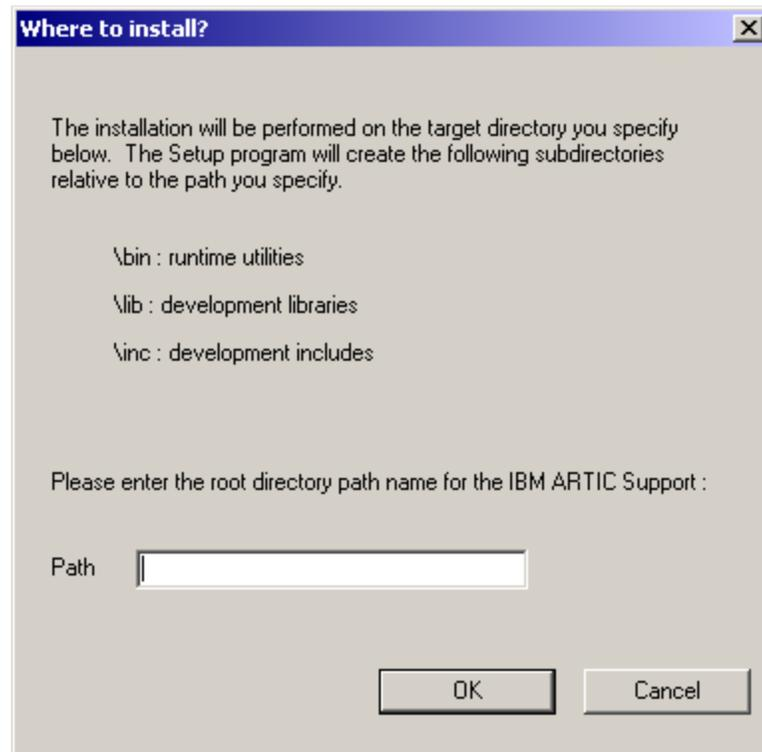

FIGURE 179. Where to install? screen
8. The Where to install? window appears as in Figure 179.